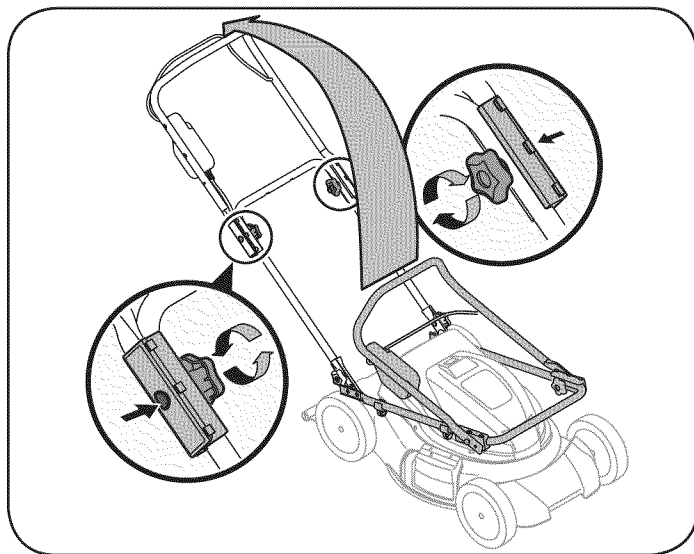

Figure 1
3. Gently lift and pivot the upper handle into the operating position as shown in Figure 1.